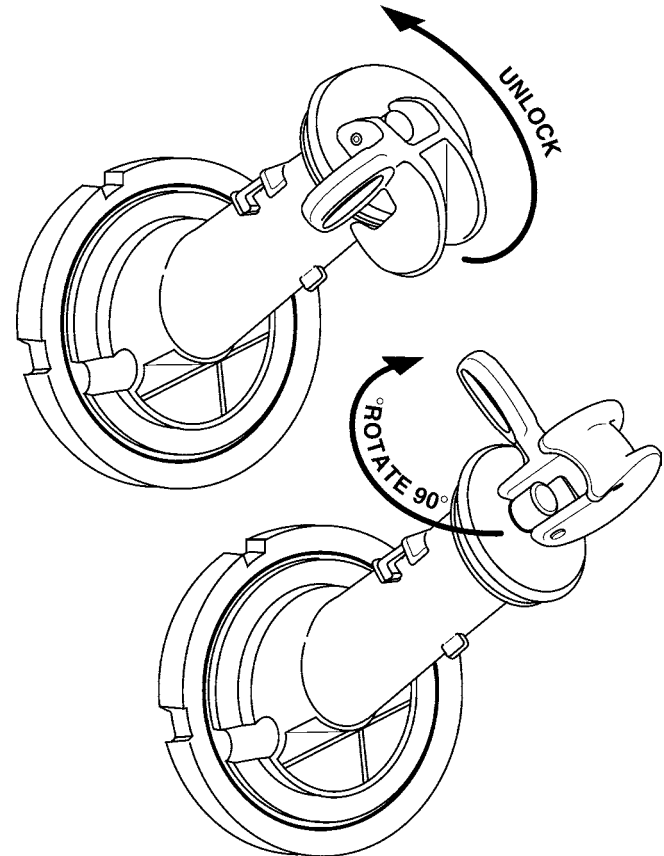

Figure 9. Unlock and turn fuseholder 90° in the Bay-O-Net housing.
3. Twist hotstick to unlock fuseholder (see Figure 9).